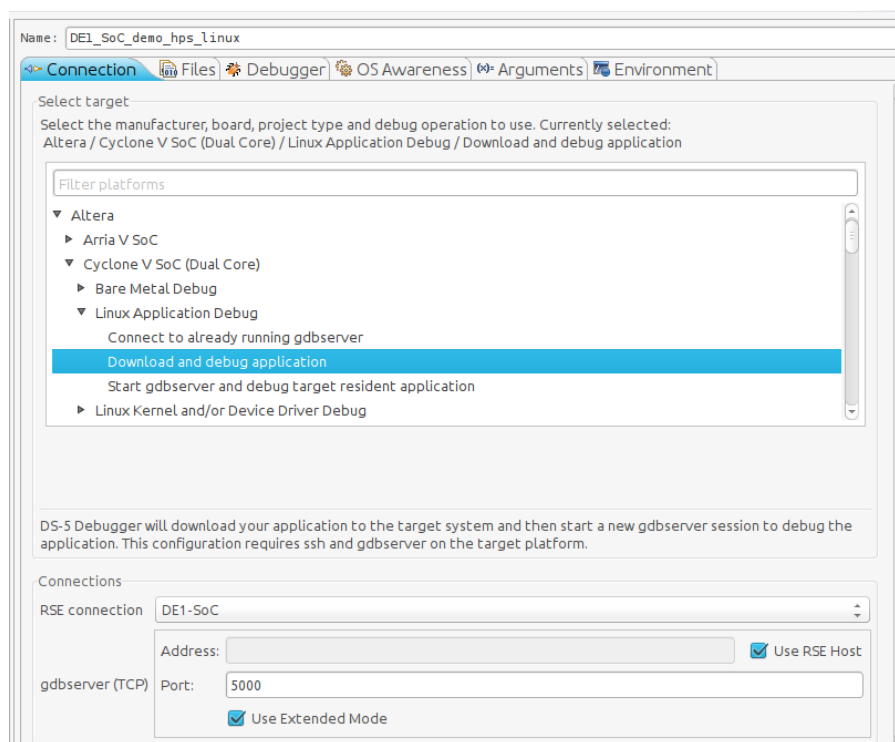

Figure 8-50. Debug Configuraton "Connection" Tab
- b. Set the "RSE connection" to "DE1-SoC". This is the remote system connection we created earlier. You should have something similar to Figure 8-50.